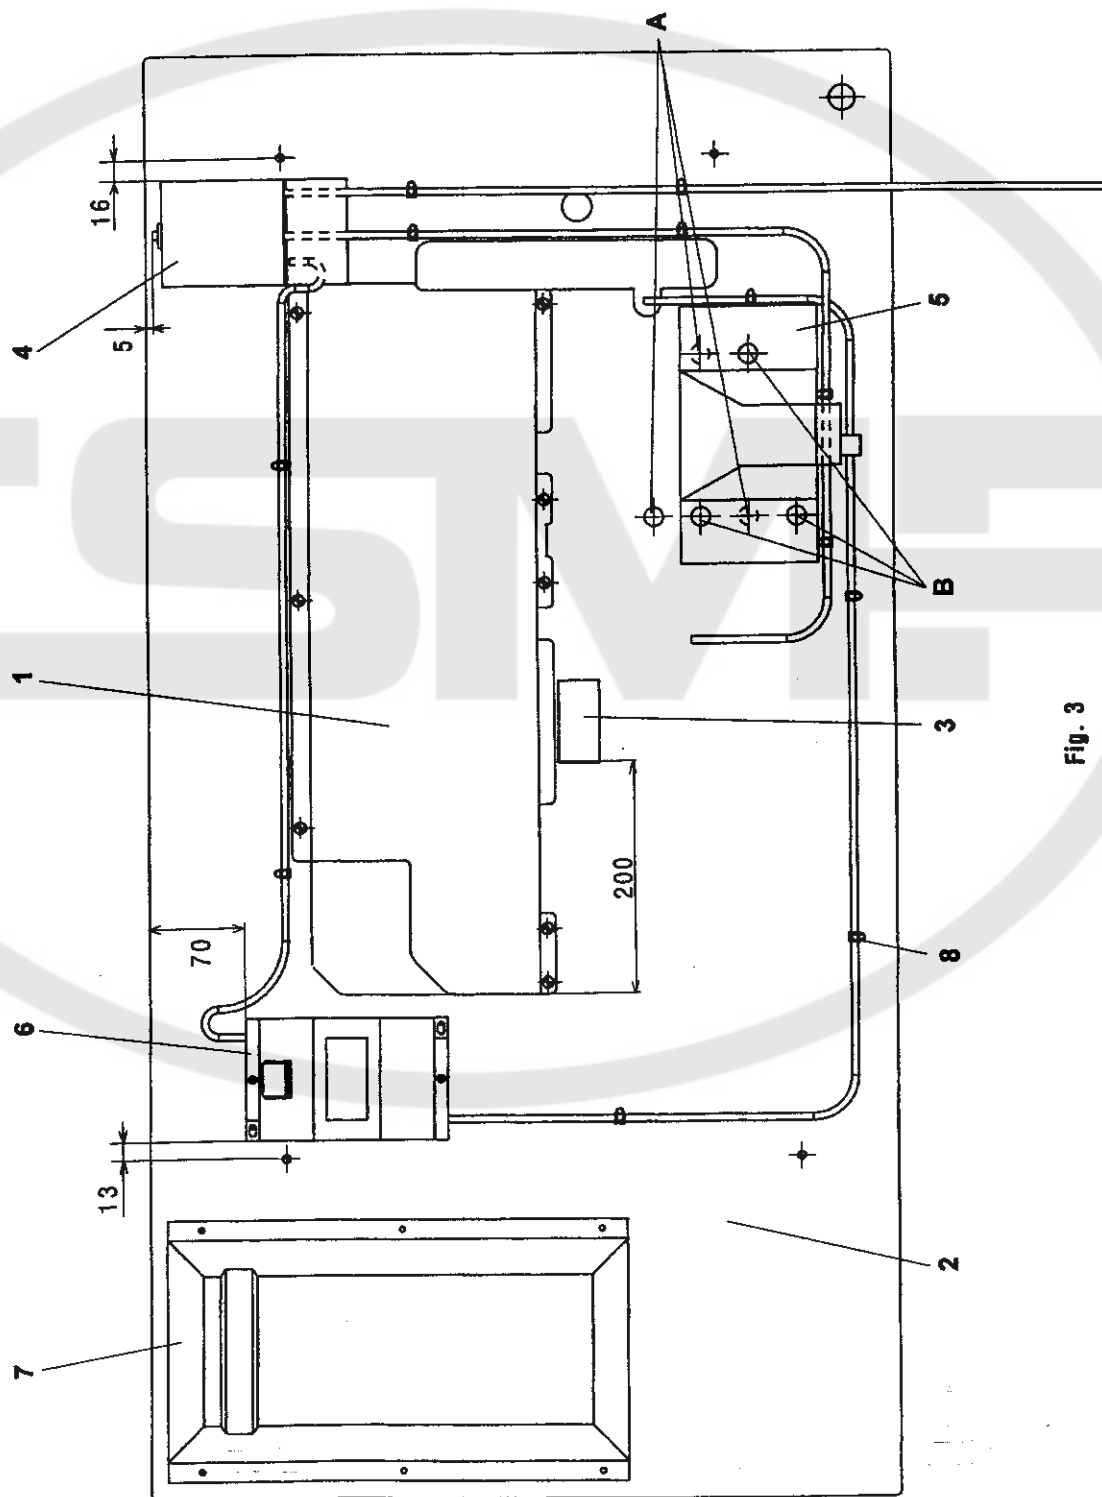

Fig. 3
Screw on the main switch (4) on the stand table top (2, Fig. 3).
Fasten the rubber bumper (3, Fig. 3).
Screw on the motor holder (5) according to the Fig. 3 and 4.
Screw on the lighting transformer (6, Fig. 3) for the lighting – if delivered.
Install electric conductors using clamps (8, Fig. 3) Connection differs according to the given motor, supply voltage and according to the number of conductors of the electric supply. In case of a four-conductor 3 x 400 supply the lighting transformer must be fed by a separate lead-in cable 1 x 230 V – see par. 12.3.
Screw on the drawer (7, Fig. 3).